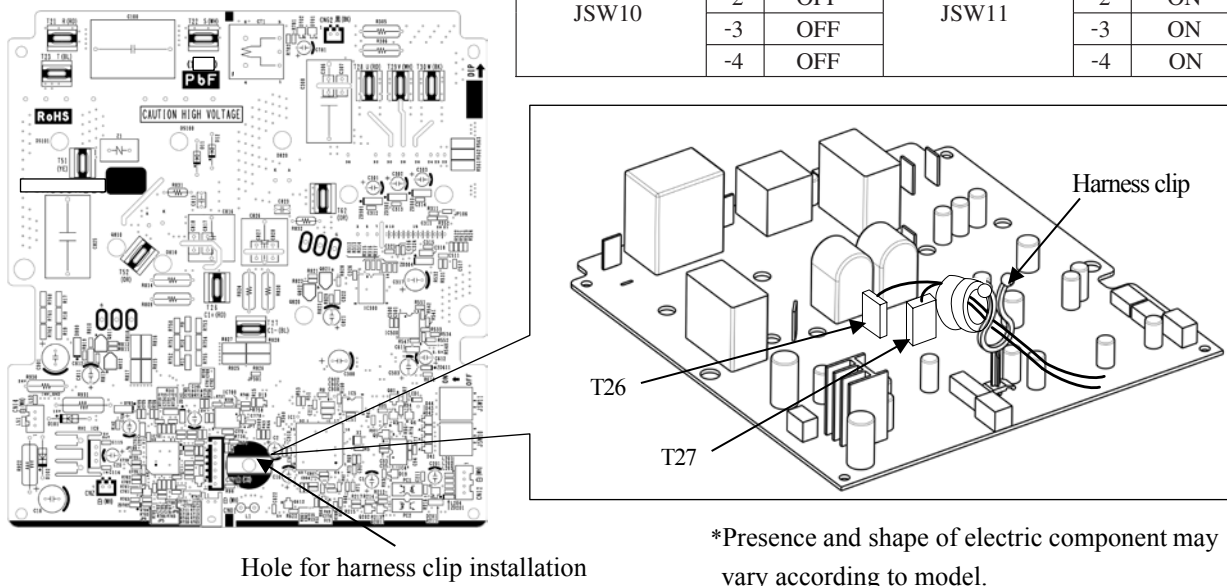

Fig.4 Fix the harness on the harness clip
- 11) Install the harness clip on the inverter pwb as shown in Fig.4, and fix the harness.